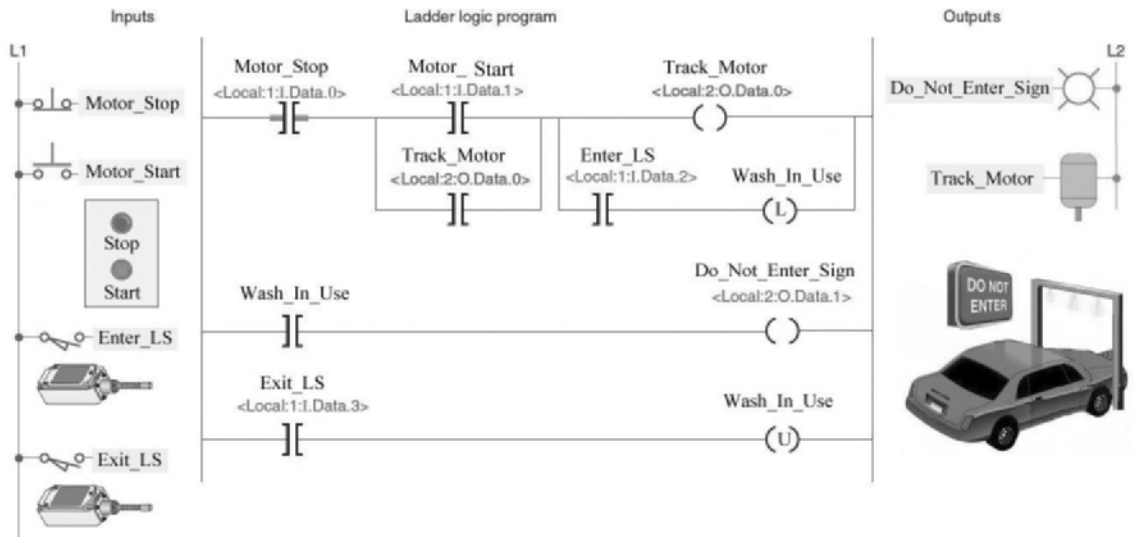

Figure 15-20 Car wash program for assignment 7.
7) The latch/unlatch instruction, used as part of a car wash program, is shown in the program of Figure 15-20. Its operation is described in the text.